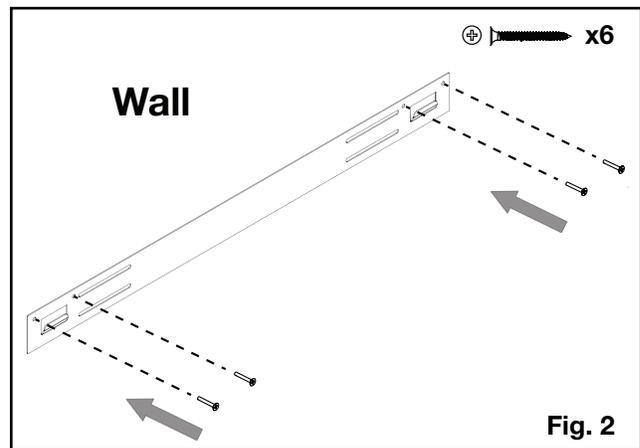

Fig. 2
4. Mark out the location, then mount the bracket onto the wall using screws (supplied). This bracket **MUST** have the hooks facing upward and it **MUST** be level (**Fig. 2**).